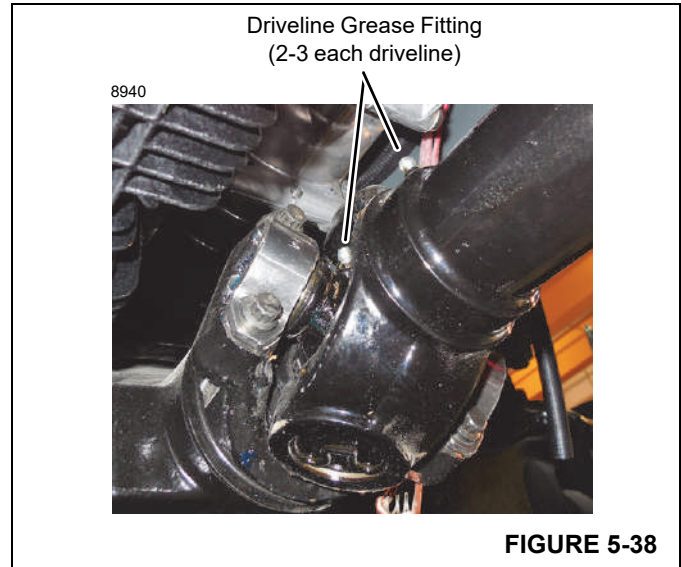

FIGURE 5-38
2. Clean the grease fittings (Figure 5-38).